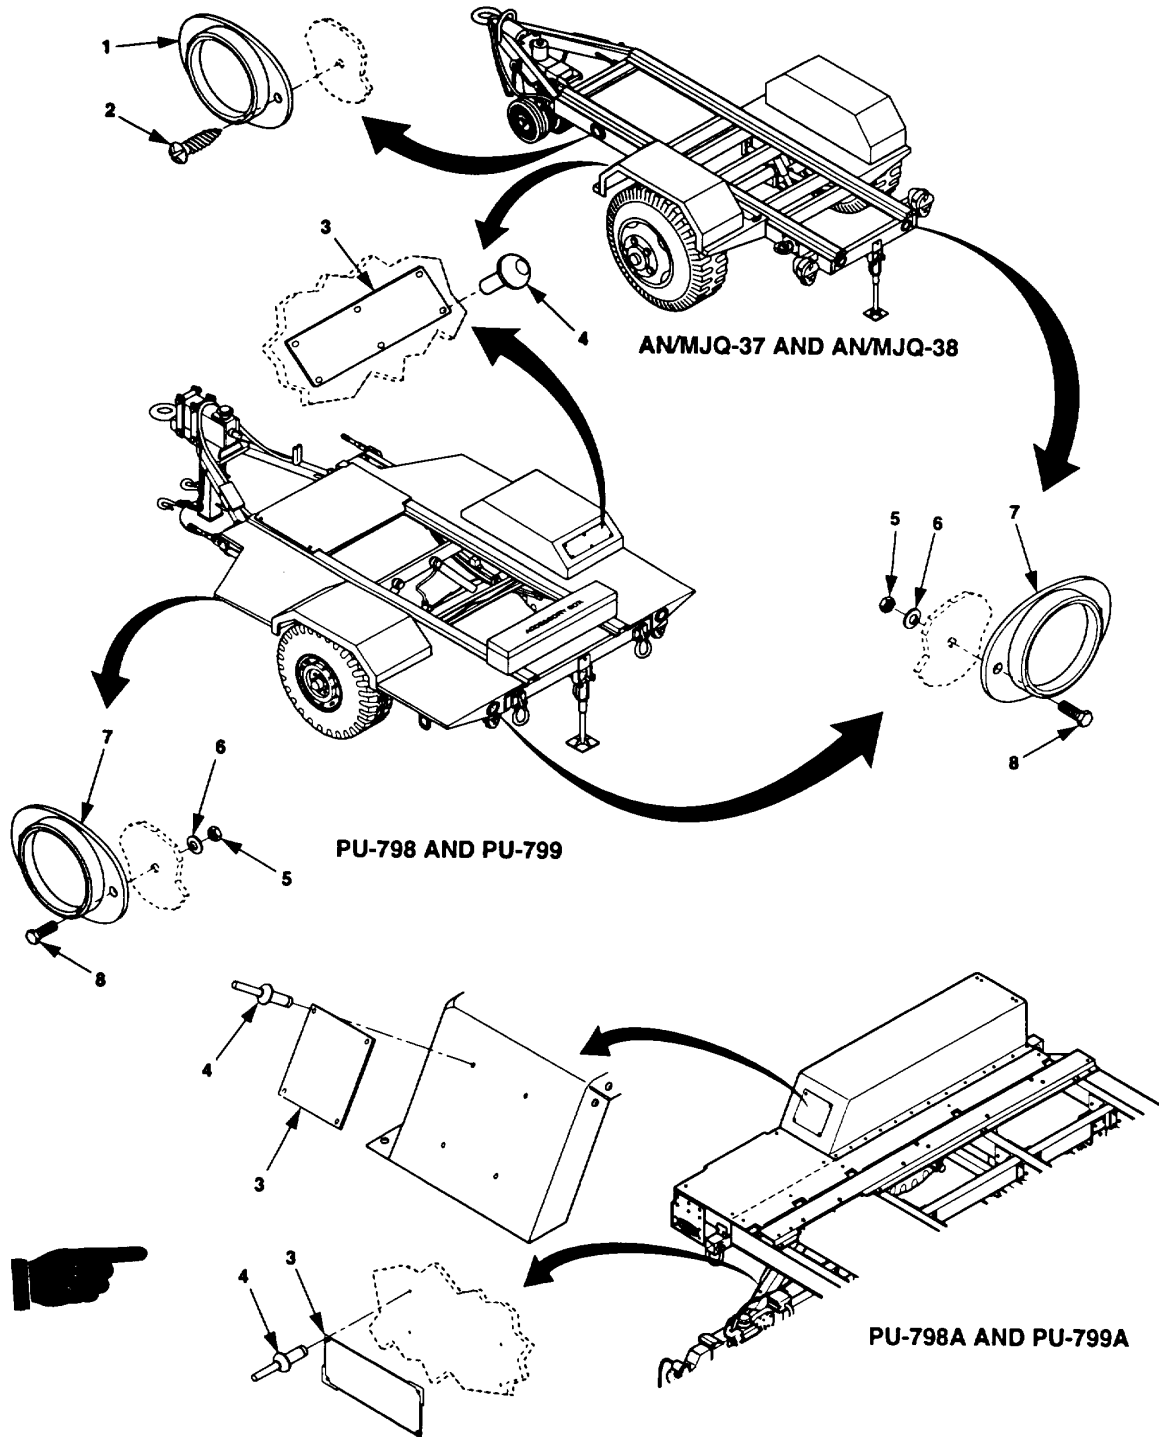

Figure 4-22. Identification/Transport on Data Plate and Reflector Replacement.
- a. Drill out rivets (4, figure 4-22) and remove data plate (3).
- b. Position data plate (3) on trailer and install rivets (4).